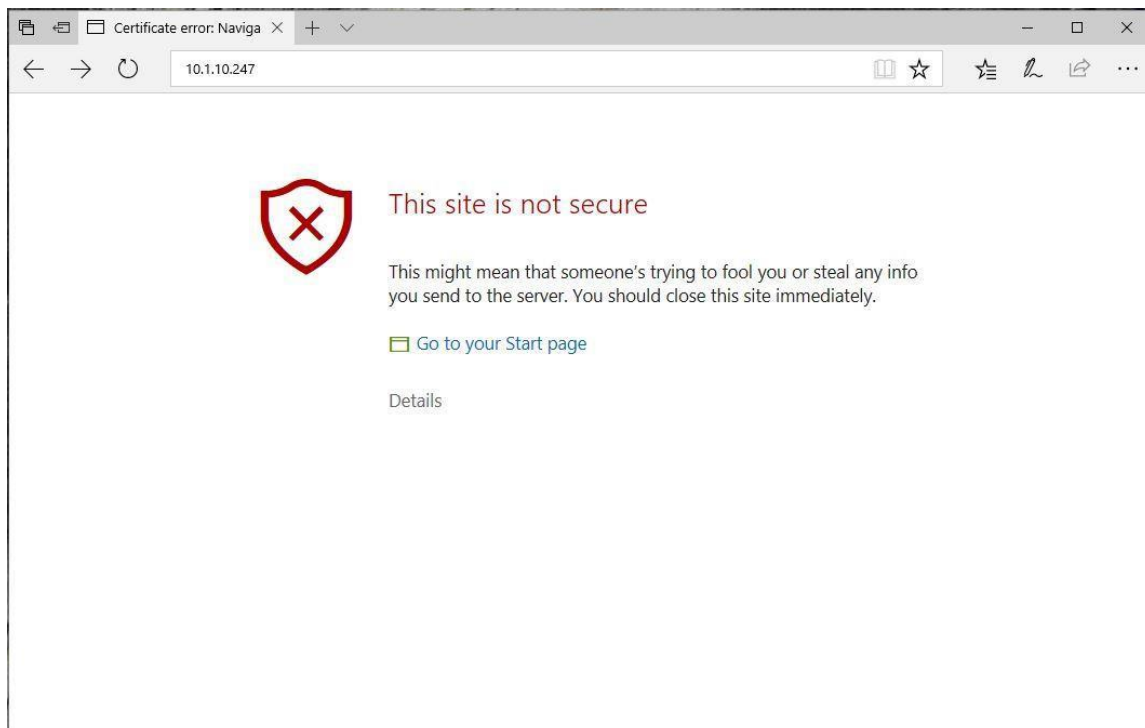

Figure 27: Accessing built-in web server ('This site is not secure')
4. The browser might show you a warning about an invalid web server certificate, as illustrated in Figure 27. Make sure, that you have typed in the correct IP address.